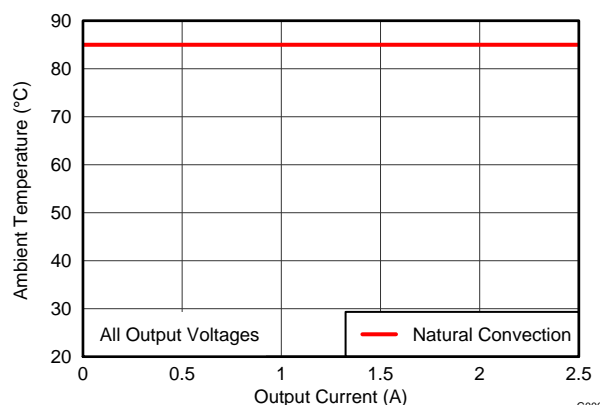

Figure 11. Safe Operating Area
- (3) The temperature derating curves represent the conditions at which internal components are at or below the manufacturer's maximum operating temperatures. Derating limits apply to devices soldered directly to a 100 mm × 100 mm double-sided PCB with 1 oz. copper. Applies to Figure 11.